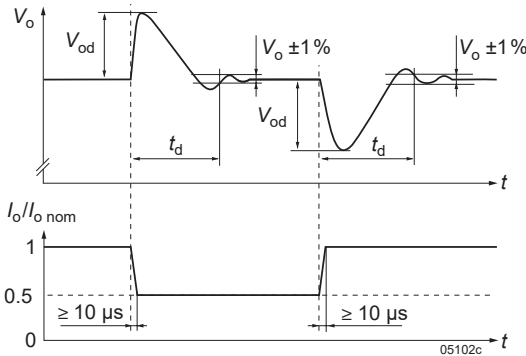

Fig. 4
- 4 Recovery time until V_o returns to $\pm 1\%$ of V_o ; see fig. 4.